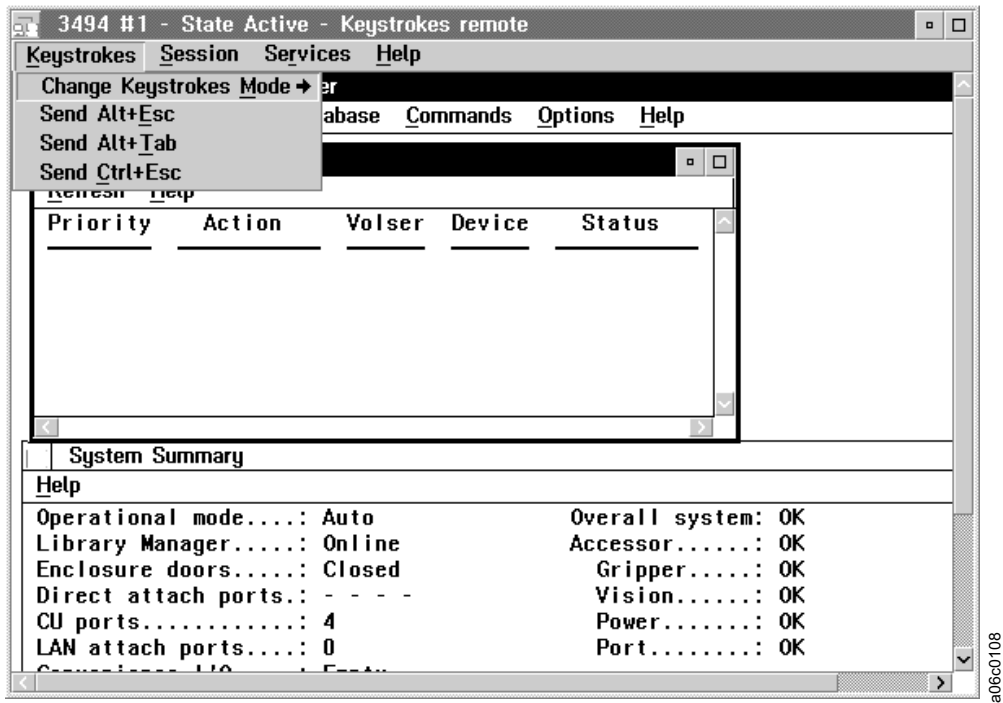

Figure 185. Remote Library Manager Console Window with Keystrokes Menu
The Keystrokes mode, displayed on the title bar of the remote Library Manager console session window, determines whether the remote Library Manager console’s keyboard input and pointing device movements affect the remote Library Manager console or the Library Manager. The remote Library Manager console starts with *State Active* and *Keystrokes remote* displayed in the title bar (Figure 185 on page 307).
You can send operating system hot key combinations to the Library Manager from the Keystrokes menu (Figure 185).
Figure 185 shows the remote Library Manager console window with a view of the Library Manager’s display during an active session. The remote Library Manager console user is working in *Keystrokes remote* mode.
1. Select the **Send Alt+Esc** option on the Keystrokes menu on the remote Library Manager console session window (Figure 185 on page 307).
1. Select the **Send Alt+Tab** option on the Keystrokes menu on the remote Library Manager console session window (Figure 185 on page 307).
1. Select the **Send Ctrl+Esc** option on the Keystrokes menu in the remote Library Manager console session window (Figure 185 on page 307).